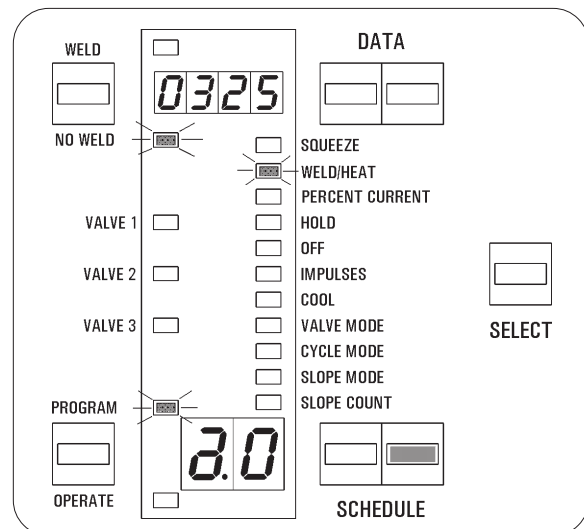

Figure 7-3. *Program WELD COUNT*
5. Press the SCHEDULE push buttons to find **2.0** in the SCHEDULE display (Figure 7-3).